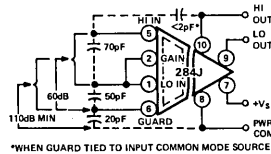

Figure 6. Model 284J Terminal Capacitance and CMR Ratings
**Capacitance:** Inter-electrode terminal capacitance arising from stray coupling capacitance effects between the input terminals and the signal output terminals are each shunted by leakage resistance values exceeding 50kMΩ. Figures 6 and 8 illustrate the CMR ratings at 60Hz and 5kΩ source imbalance between signal input/output terminals, along with their respective capacitance.